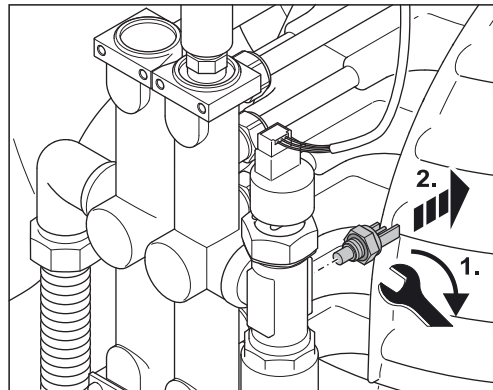

Fig. 6-11 Unscrew the flow temperature sensor
3. Unscrew the flow /return flow temperature sensor using an open-jaw wrench SW 15 (fig. 6-11).